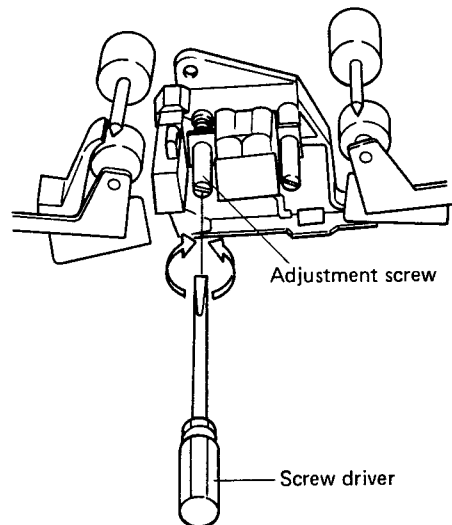

Fig. 10-2 Head angle adjustment
2. Play the STD-331A test tape's 10kHz, -20dB signal and turn the head angle adjustment screw A (shown in figure 10-2) so that both the left and right channels are at their maximum outputs.